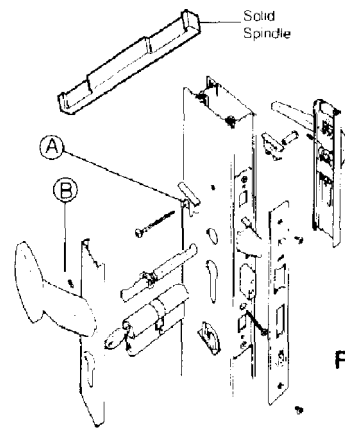

FIG. 8
- A. Attach the handle end caps (A). FIG. 8 with the screws provided.
- B. Place the square operating spindle through the lock ensuring that the flat on the spindle is in alignment with the grub screw. (B), FIG. 8.